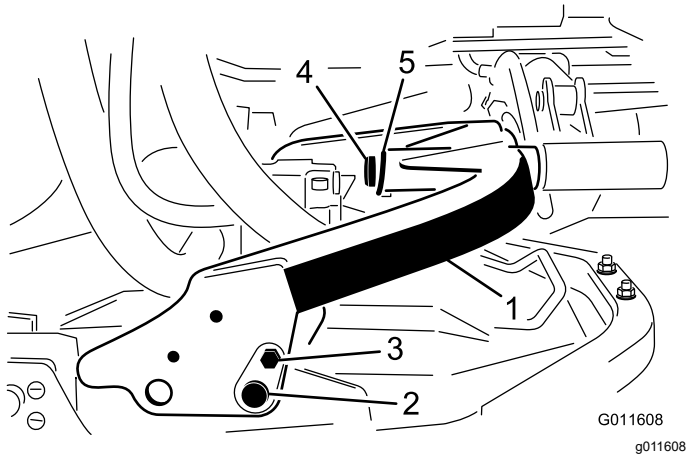

Figure 2
1. Pivot the carrier frame and secure it to the deck bracket with the flag pin, bolt and nut. Position it as shown in Figure 2.
Note: For rear cutting units, pivot the carrier frame forward (Figure 2). For front cutting units, pivot the carrier frame rearward.